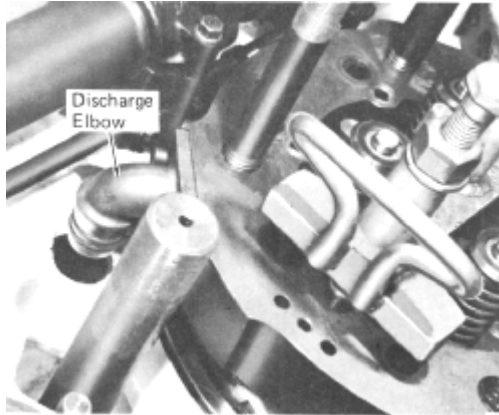

Fig. 5-22 - Water Discharge Elbow Alignment
60. Line up the water discharge elbow with the mating hole in the crankcase, Fig. 5-22. Be careful that the seals are not damaged or twisted in the grooves while the head is lowered into position. Before the head contacts the liner, re-check the position of the seat ring notch and finish lowering the head. Remove the head fixture and lifting device.